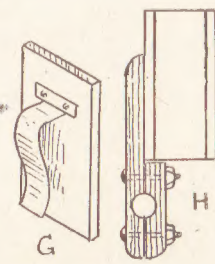

Fig. 4—Rail fixing and clip
If the lamp is to be fitted to one of the wood frame bedsteads, a simple metal clip, as at (G) in Fig. 4 will suffice. It can be bent up from stiffish brass or aluminium strip, and be screwed to the back of the box. Bend it to suit the thickness of wood of the bed-head.